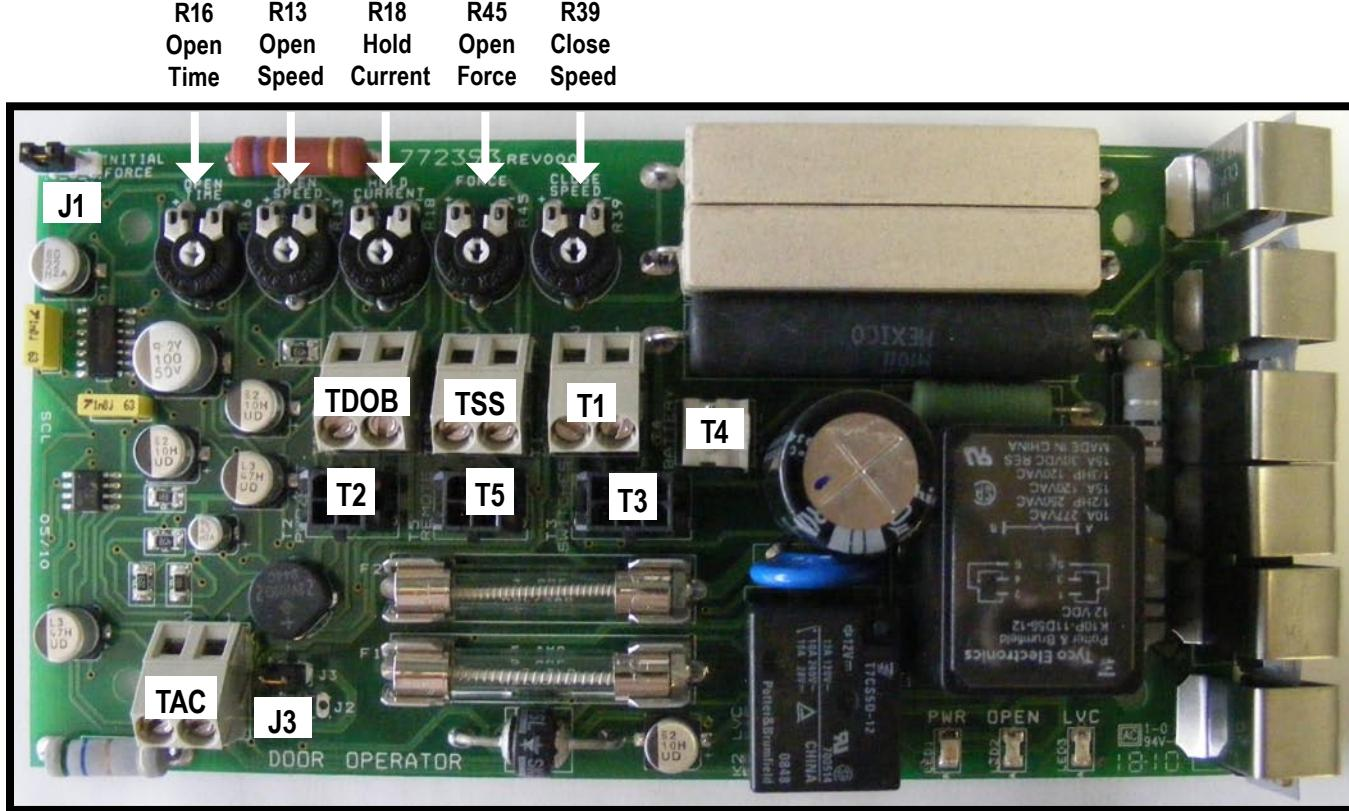

Figure 112 Control Board (PN 772393)
- 1) Connect the operator harness from terminal T2 on the Operator Control Board to the elevator Hoistway Junction Board (i.e. TDOB, TDOM, TDOT). Refer to the Electrical Schematics supplied with the lift/elevator. Also refer to Figure 112 on a later page.
- 2) **Pot R13 Open Speed must be set to MIN. Remaining pots must be set to top centre as shown in Figure 112.**
The cams “stop” and “start” the opening and closing of the door. However, if fine tuning is required, there are five potentiometers located on the circuit board which can be adjusted. In each case, turning the pot clockwise increases the value, and counter-clockwise decreases the value. Refer to Figure 112.
Refer to Figure 112 for pot layout.